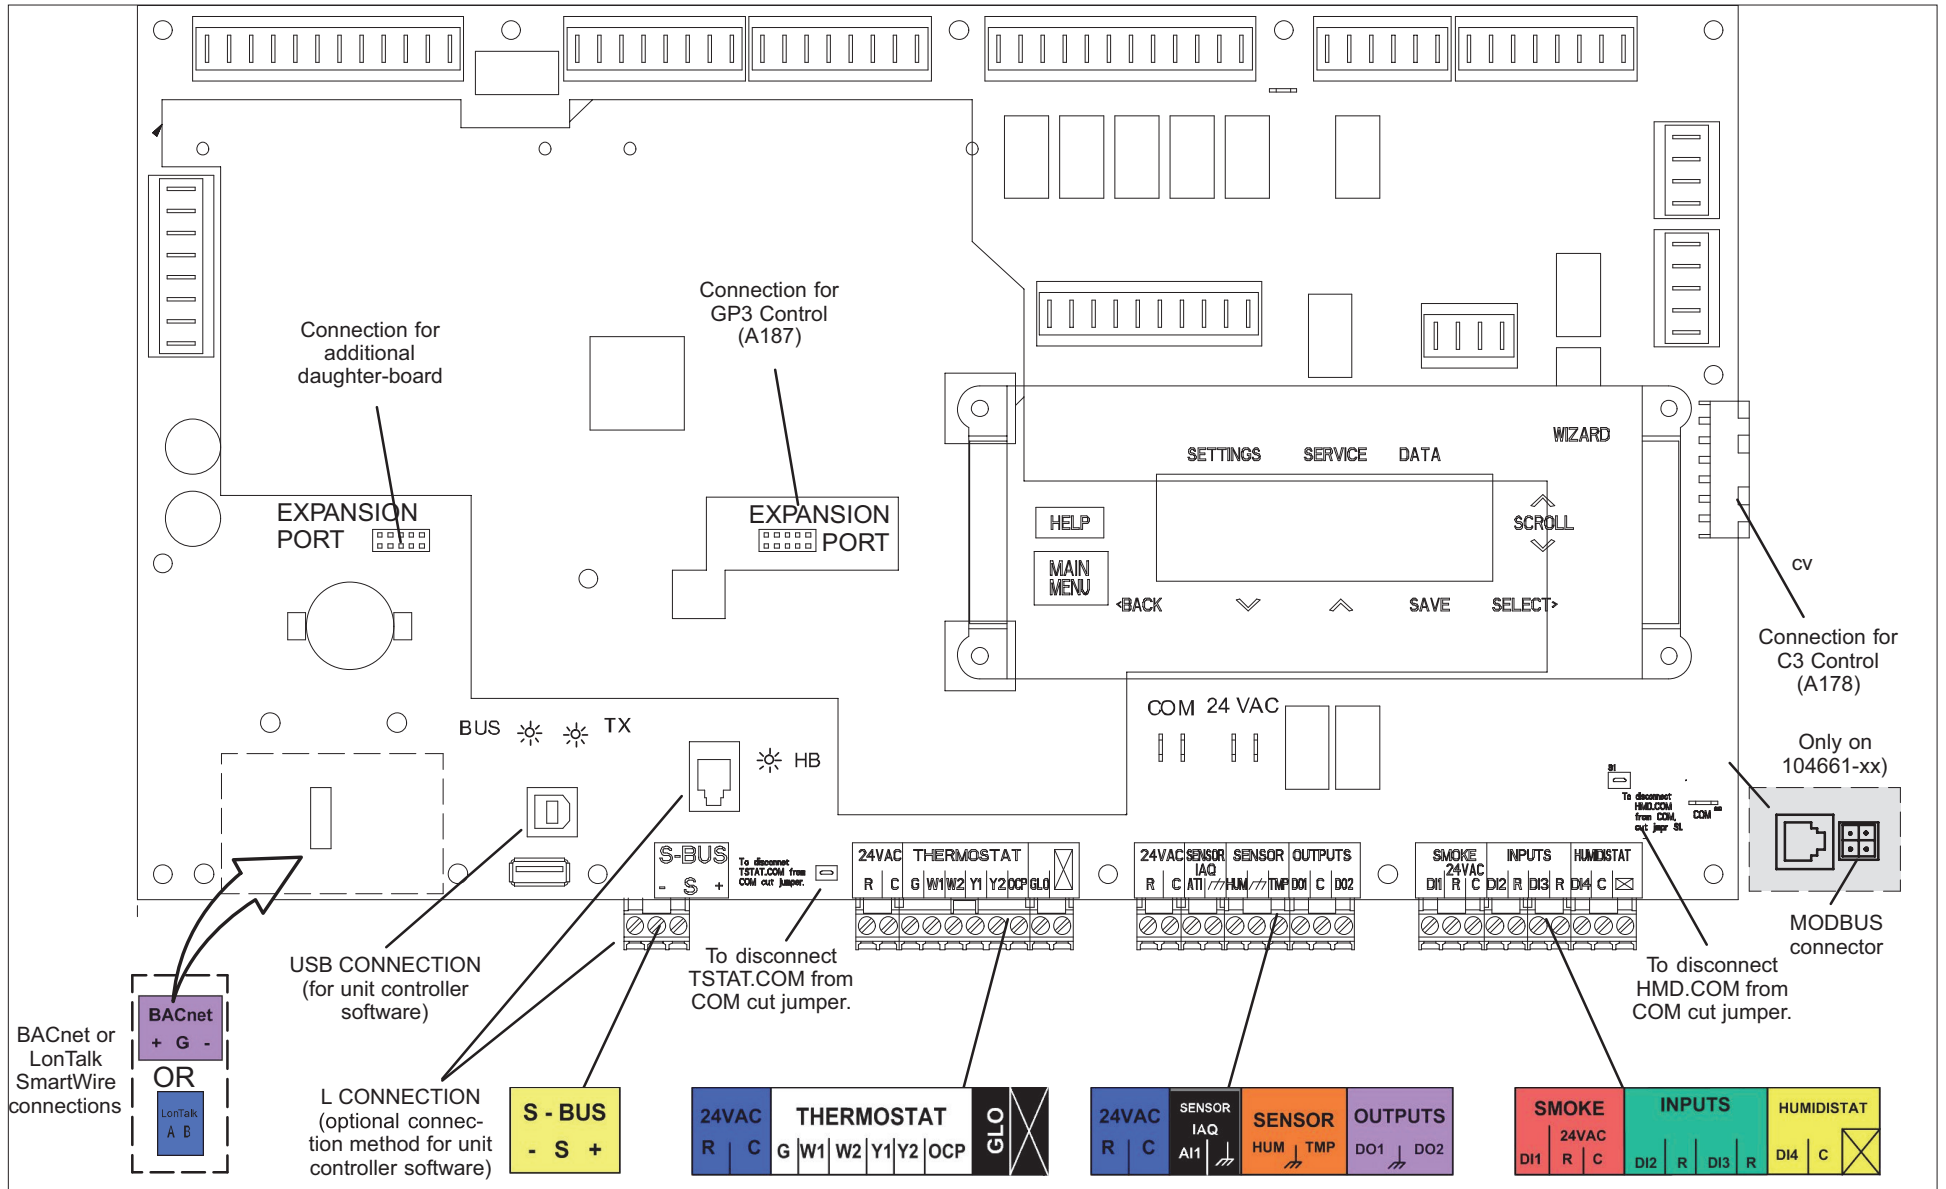

Figure 1. Original M3 Unit Controller (A55) and Expansion Port Locations
**NOTE:** "Figure 1. Original M3 Unit Controller (A55) and Expansion Port Locations" on page 5 shows the M3 unit controller components and the location of the add-on control expansion ports.